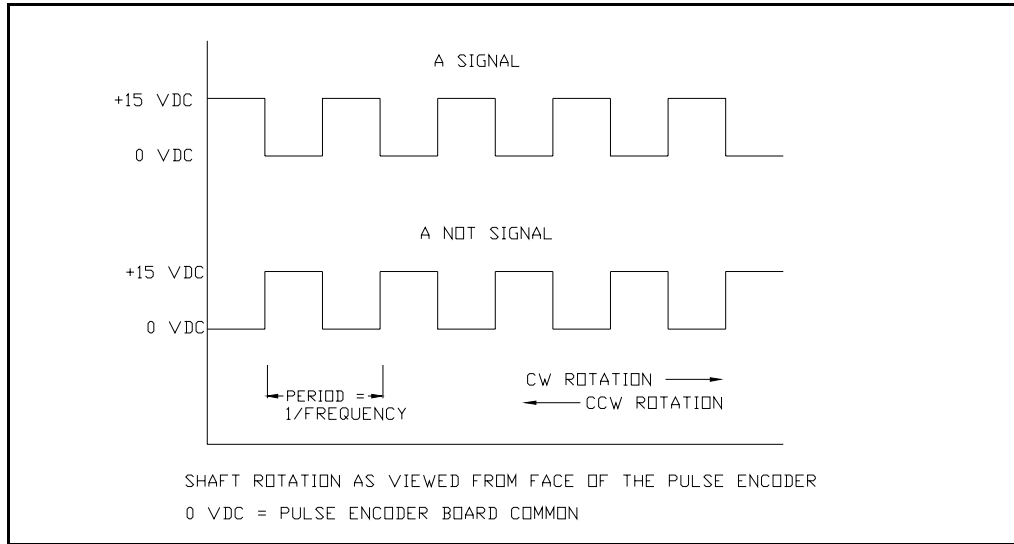

Figure A.1 – Single-Channel Pulse Encoder Waveform
- A single-channel pulse encoder is used for non-regenerative and non-reversing motor applications. For FlexPak 3000 non-regenerative drives (S6), use a single-channel differential output (A and A not) pulse encoder. Refer to figure A.1 for an example waveform from a single-channel pulse encoder.